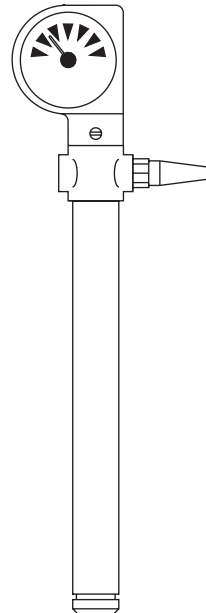

Fig. 5 Rotation of the dial head
The dial head itself may be rotated through 180 ° if necessary. In such cases the following procedure should be adopted making reference to Figure 2b and Figure 5 except where stated:
1. Remove the tamper-proof plug (6) and use a suitable screwdriver to set the indicator (3) to the midway point (1).
2. Remove the transparent cover (2).
3. Remove the indicator (3).
4. Remove the dial head retaining screws (5).
5. Rotate the indicator through 180 ° (Figure 5).
6. Replace the dial head retaining screws (5).